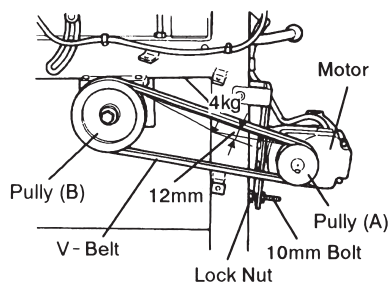

Fig. 33
When the V-belt tension is correctly adjusted, there will be approximately 0.47" (12mm) of deflection when the belt is pushed down with a force of 8.8lbs (4kg) at a point halfway between pulley (A) and pulley (B). (See Fig. 33)
- (2) Loosen the lock nut, and rotate the 10mm bolt to adjust the V-belt to the correct tension as illustrated in Fig. 33.
- (3) On completion of adjustment, without fail secure the 10mm bolt in position by tightening the lock nut.